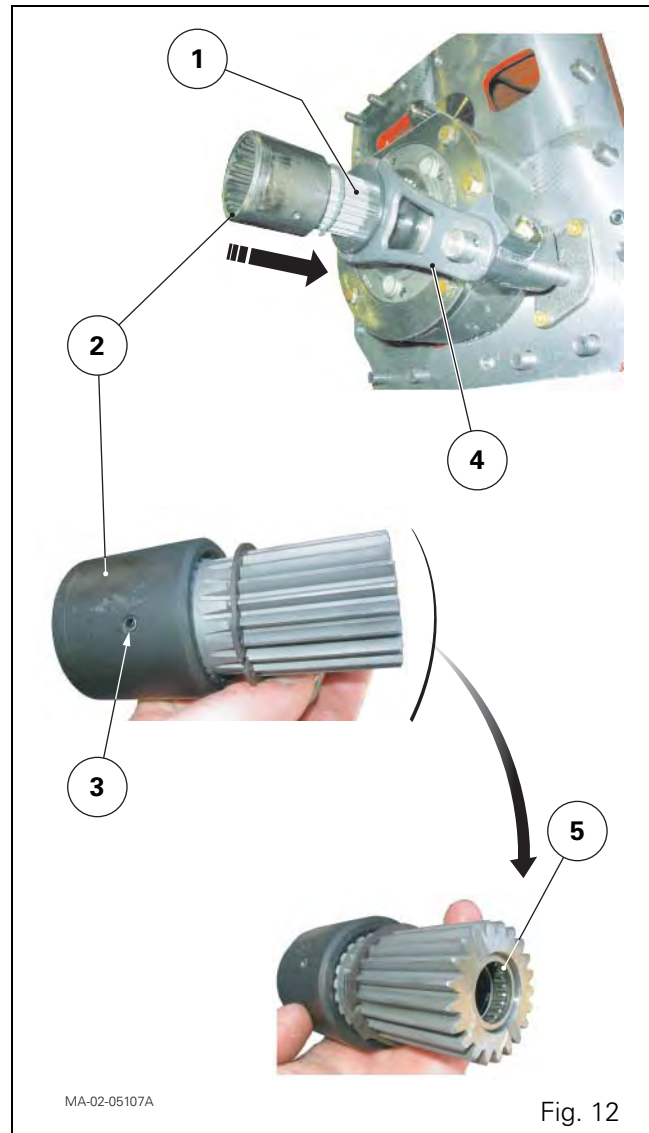

Fig. 12
- **Gearbox with super creeper unit (Fig. 12)**